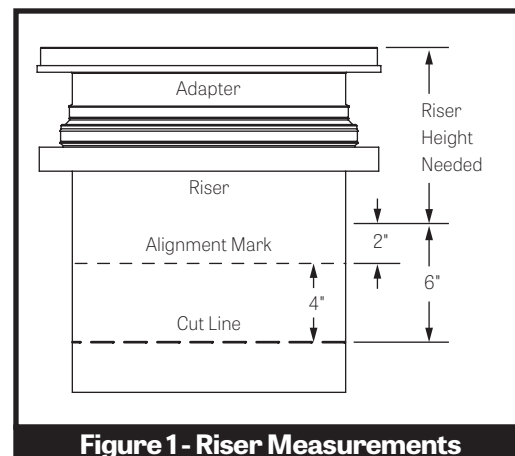

Figure 1 - Riser Measurements
2. Remove covers from adapters. Remove adapters from main unit. On a level surface, pre-assemble the risers and adapters, adjusting the components upwards or downwards to achieve the riser height needed. Make sure to maintain minimum and maximum insertion depths as shown in Figure 2. If components are too long, make a circular line around the sidewall with marker and cut with a power saw. The lowest cut line on the riser assembly will be 6" beyond the riser height needed to allow for ideal insertion depth (See Figure 1). An alignment mark should be drawn 2" beyond the riser height needed which will align with the top of the base unit gasket. **DO NOT** cut the alignment mark. The Adapters and risers should sit level with each other. Tighten upper clamps to keep riser/adapter assembly from shifting. Make alignment marks on the sidewalls at the top of all riser gaskets to aid final assembly.